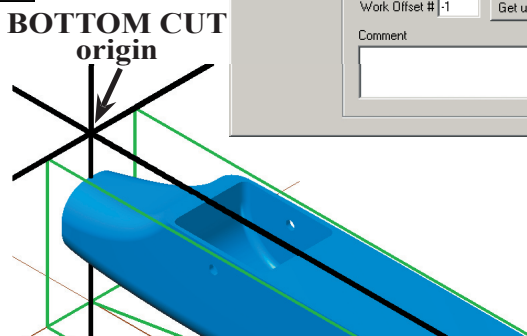

Fig. 57
Step 12. Check the origin. Use **F9** to show the axes, **Fig. 57**. Then, **F9** again to hide axes.